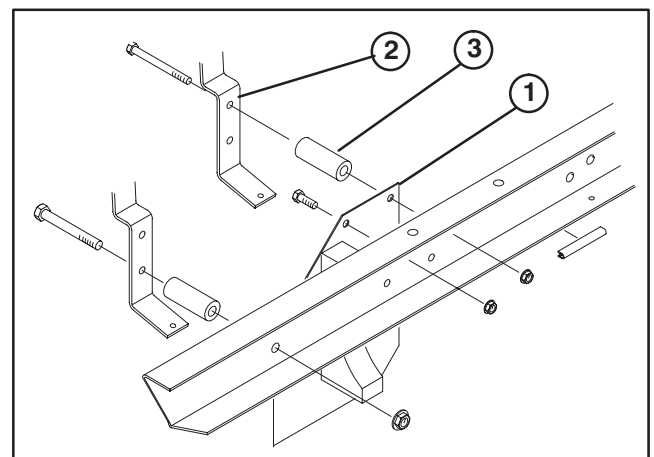

Figure 18
60. Place generator shield and baffle assembly against right hand frame channel, aligning rear holes in baffle with rear fuel tank mounting holes. Using front holes in baffle and frame secure together with (2) 3/8-16 x 3/4" lg. capscrews and flange nuts (Fig. 18).
66. Install frame trim to vehicle frame, centered on the fuel line, to prevent fuel line from rubbing on frame (Fig. 18).
67. Secure rear fuel tank support to shield and frame with (2) 3/8-16 x 4" lg. capscrews, spacers and nuts (Fig. 18).
68. Secure front fuel tank support to frame with (2) 1/2-13 x 4.5" lg. capscrews, spacers and nuts (Fig. 18).